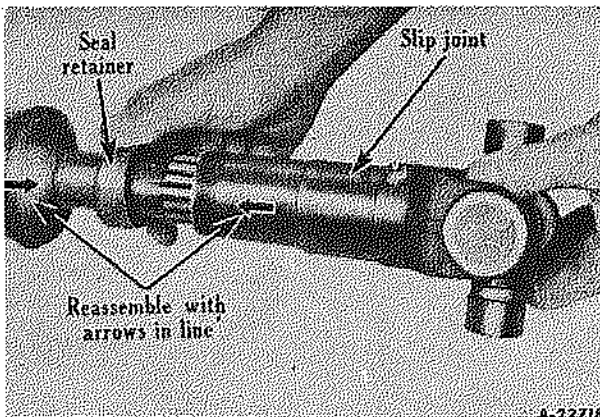

Fig. 1
- A. Remove oil seal retainer from end of slip joint and remove slip joint from shaft, after first marking the male and female splines to ensure correct reassembly Fig. 1.